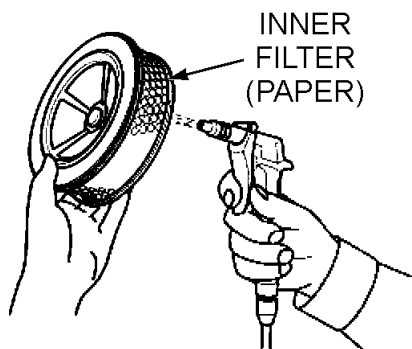

Figure 28. Cleaning Inner Paper Filter
- To clean the paper air filter (Figure 28), tap the filter element several times on a hard surface to remove dirt, or blow compressed air [not to exceed 30 psi (207 kPa, 2.1 kgf/cm²)] through the filter element from the air cleaner case side.